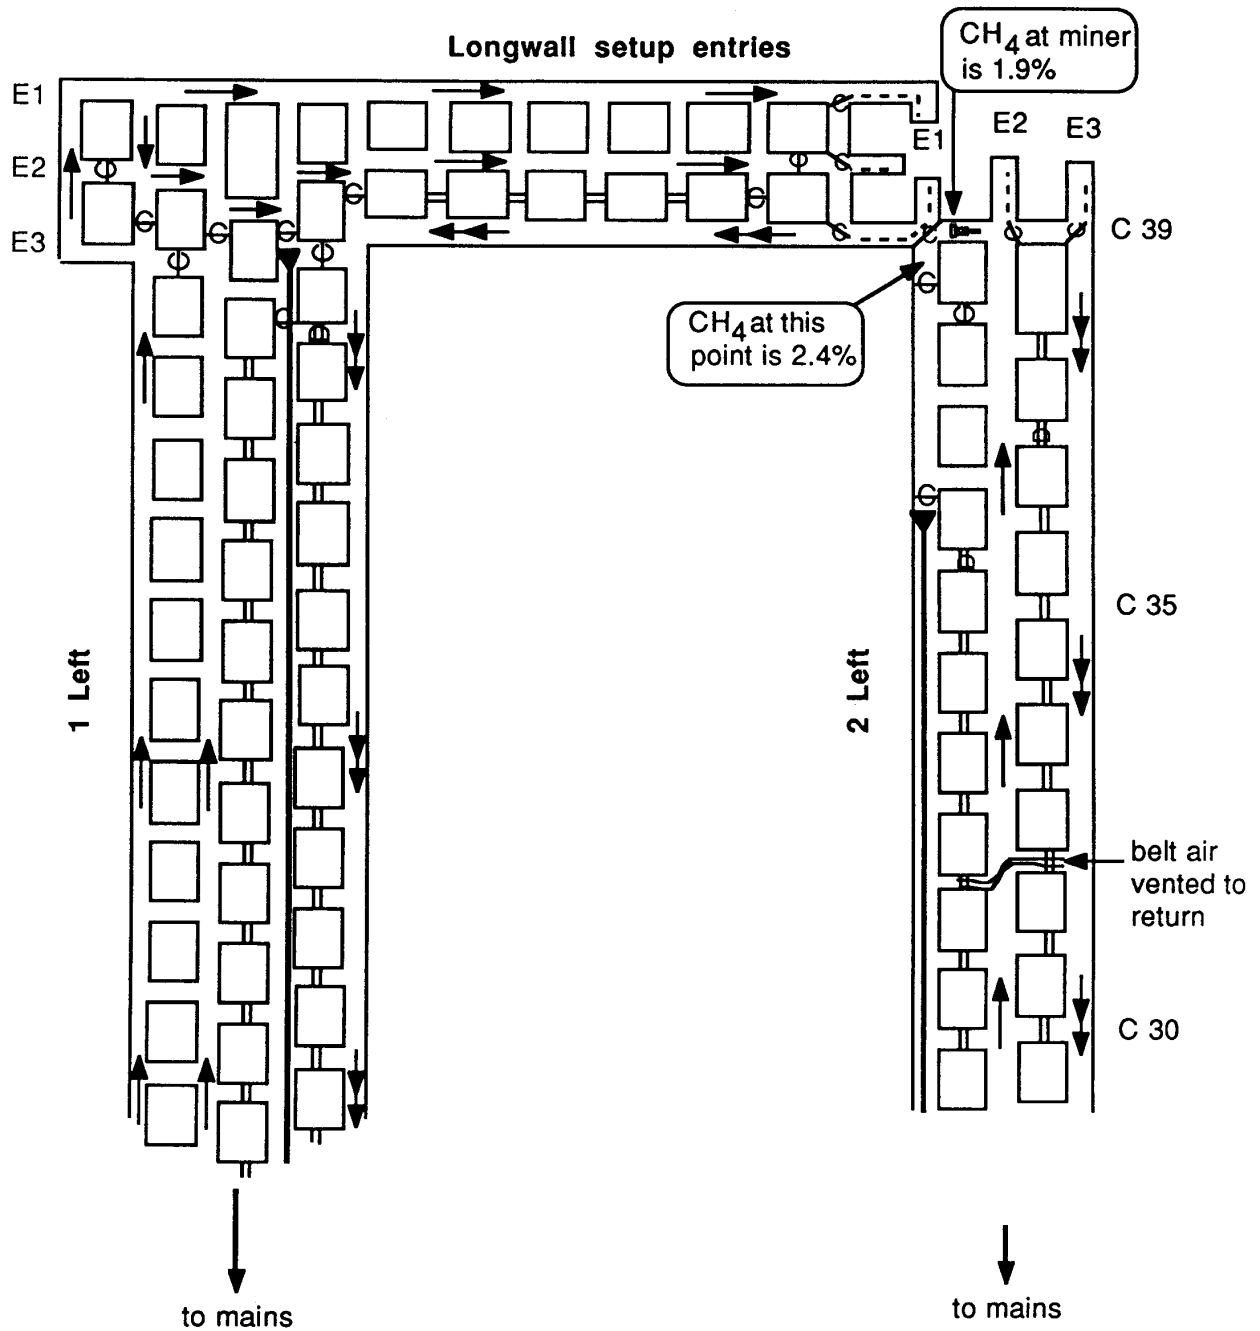

Figure 4: Methane in the face area of 2 Left section is noted
It is now the next shift. The continuous mining machine helper energizes the miner which was left in crosscut #39 between #1 and #2 entries in 2 Left as shown in Figure 4. The methane monitor warning light comes on immediately and the miner won't start. The helper begins checking with a methane spotter. He finds the methane values at the locations shown in Figure 4.
12. Mark **Xs** on the map in Figure 4 to show other places the miner helper should take methane readings. (Write only on the answer sheet.)